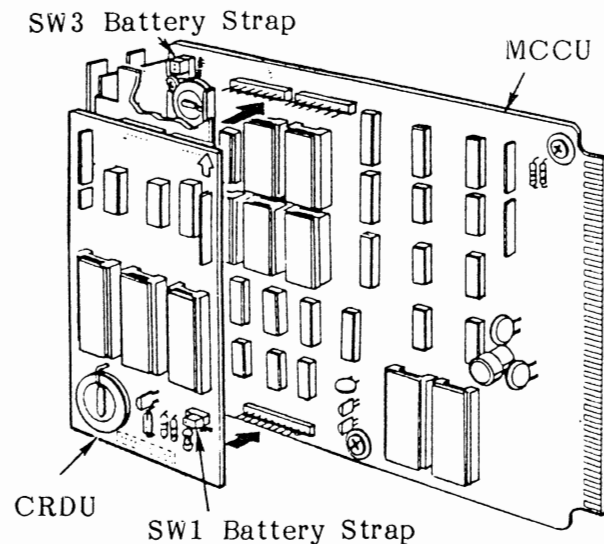

FIGURE 10
06.32 Connect the memory back-up battery on the MCCU (and on the CRDU if the system is so equipped). Refer to Figure 10, locate the SW1